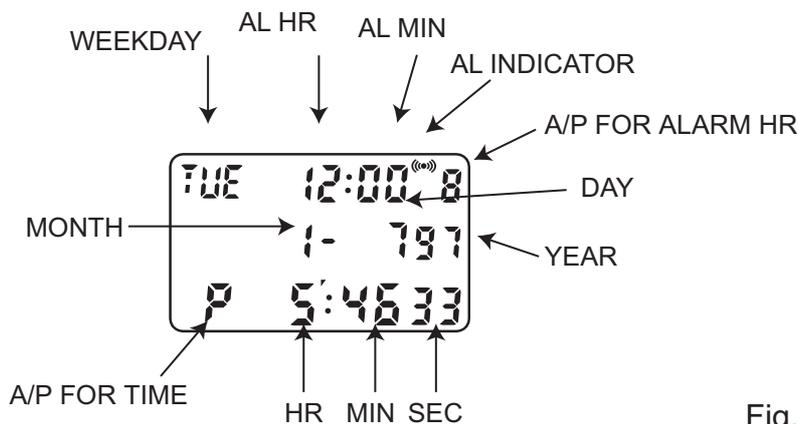

Fig. 22
- Press C to go to the TIME MODE. The display is as shown in Fig.22.
- Press and hold B button will go into the TIME SET mode with the AL HOUR blinking. Press A to set the AL HOUR. Press B to select digits in the following sequence: AL HR, AL MIN first digit, AL MIN 2nd digit, AL OFF/ON, YEAR last digit, YEAR 1st digit, MONTH, DATE, 12/24HR selection, HOUR, MIN 1st digit, MIN 2nd digit, and SECONDS. Press A to set the blinking digits. Pressing C any time during this setting sequence will complete the setting procedure and return to the normal TIME display as shown in Fig.22.